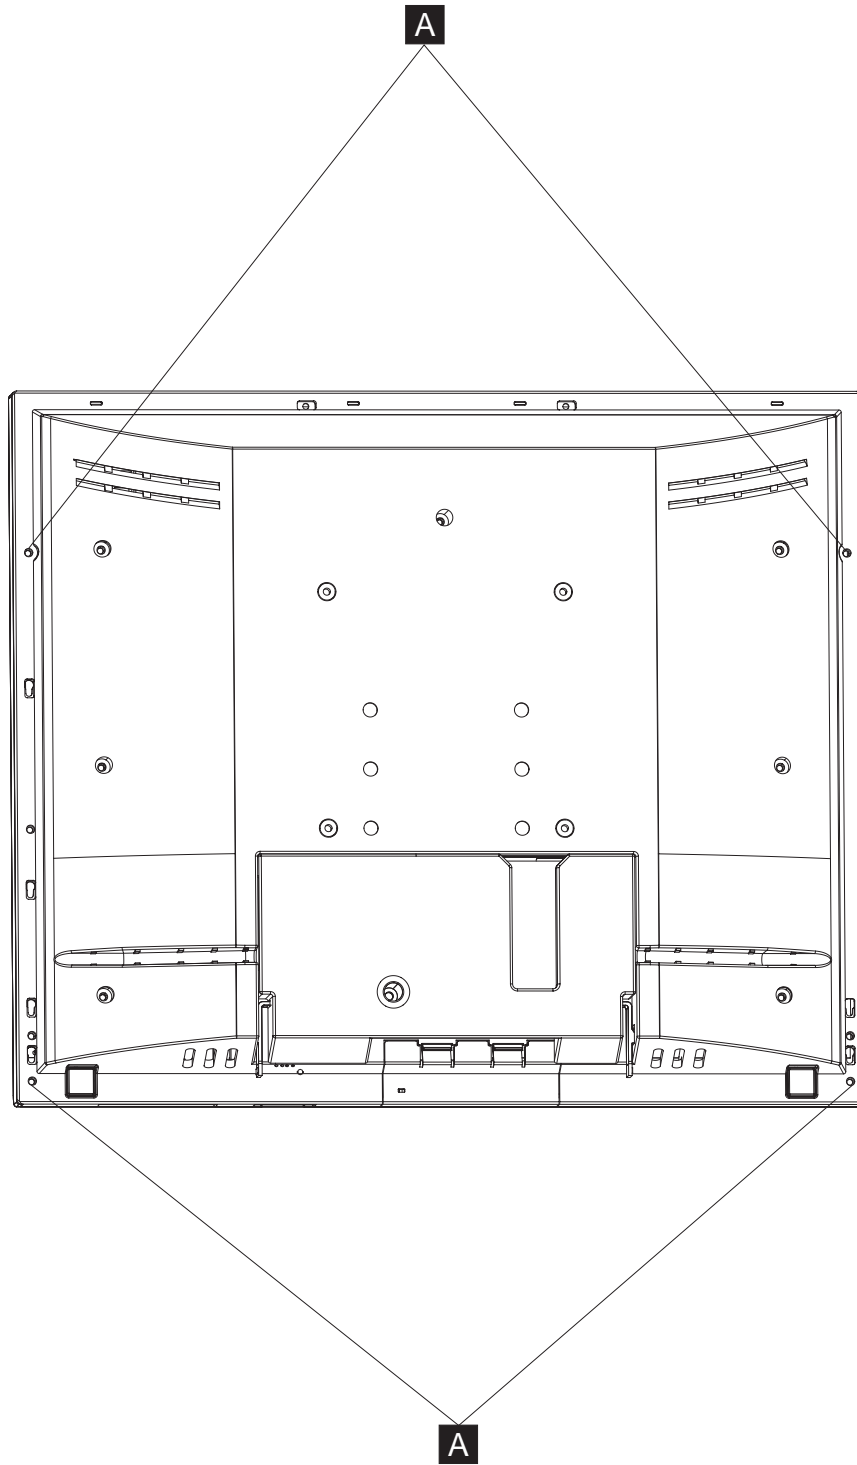

Figure 59. Sign attachment for standard display
- There are four places on the standard display. See **A** in Figure 59 on page 90. A M3 X 8 screw can be used. These screws are to be provided by the customer. See “Display tablet sign point dimensions” on page 134 for dimensional details.